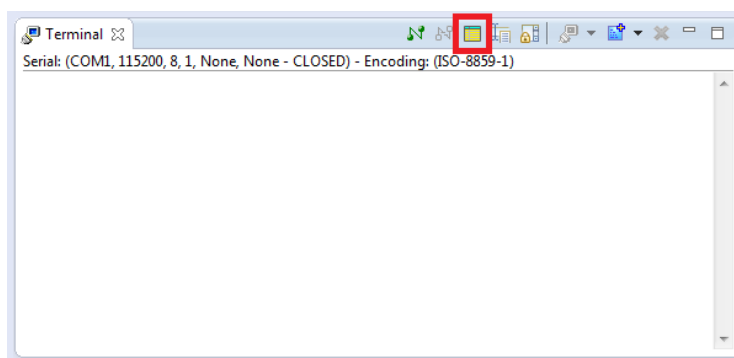

Figure 13-9. ARM DS-5 Serial Terminal
73. Although we can continue to use the “minicom” program as we previously did in Figure 13-5, we will use the built-in serial terminal available in *ARM DS-5* to have all development windows in one area. Go to “Window > Show View > Other... > Terminal > Terminal” to open *ARM DS-5*’s the built-in serial terminal. You should see the terminal shown in Figure 13-9.